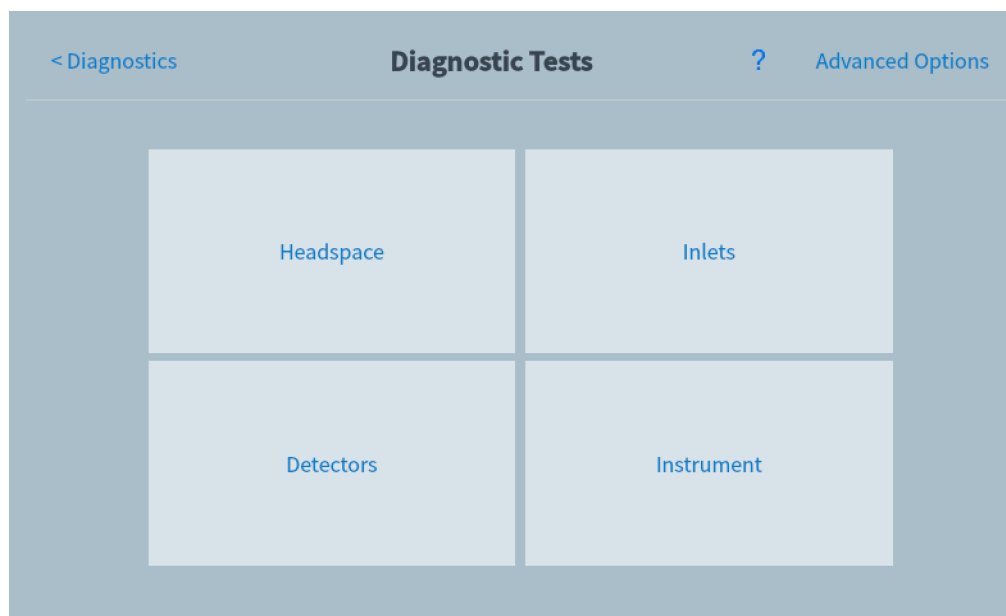

Figure 32. Diagnostic Tests page
- 2 Select **Diagnostic Tests**. The Diagnostic Tests page appears. See **Figure 32**.